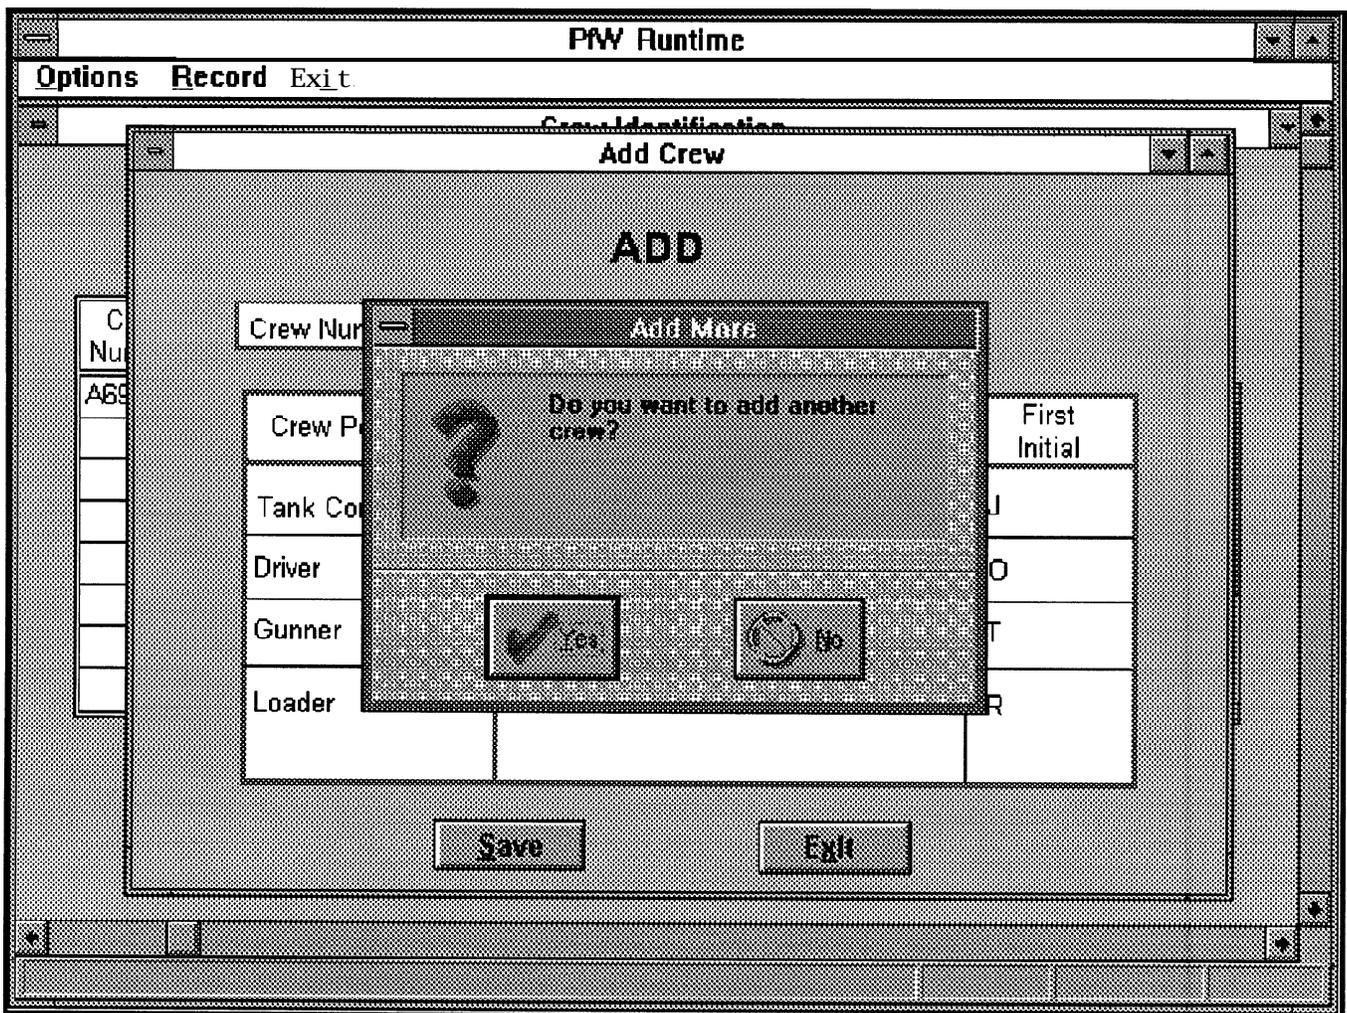

Figure 2-109. Add More Screen
- a. At the Add Crew Screen, click on the Save button. The Add More Screen, Figure 2-109, displays.